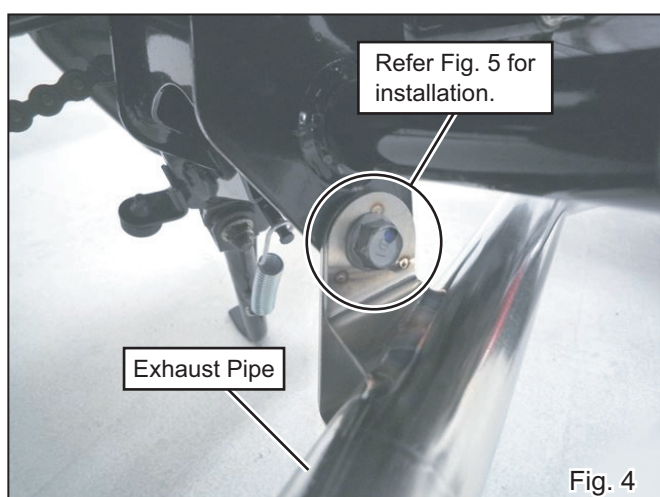

Fig. 4
- 4) Fix exhaust pipe bracket at bolt hole underneath engine with stock bolt. Tighten bolt by hand only at this stage. (See Fig. 4 & 5)